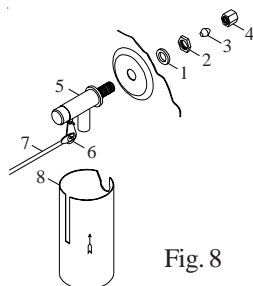

Fig. 8
- **Install float valve and fill pan.** Refer to Fig. 8. Remove items 1, 2, 3, and 4. Insert float body (5) through hole in back post panel as shown. Install washer (1) and nut (2). Tighten to keep float from turning. Place nut (4) and ferrule (3) on water supply line. Connect to float fitting and tighten until water tight. Loosen screw (6) and adjust rod (7) until water level is within 1" of top of reservoir. Tighten screw (6). Slide float shield (8) up over float body (5) until it snaps into place.